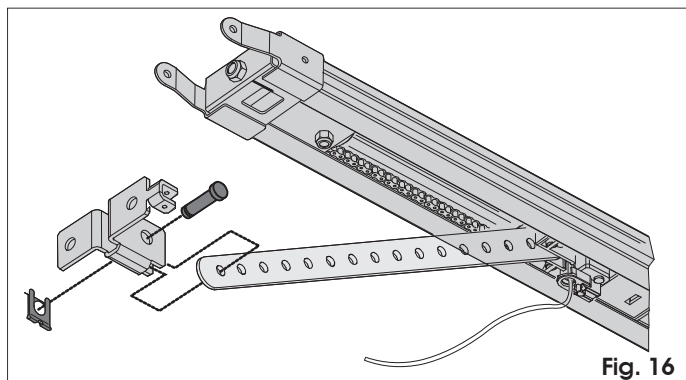

Fig. 16
- 1) Assemble the fitting with the carriage rod (Fig. 16).